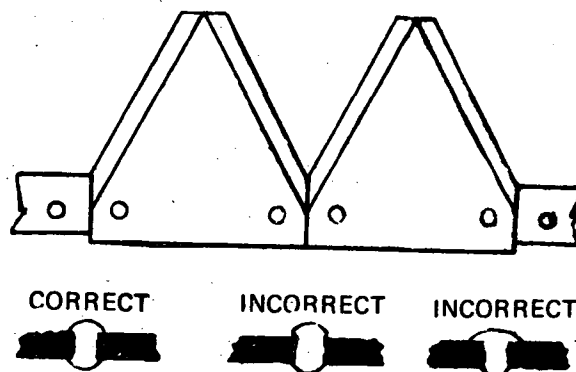

Fig. 3
- b) Mount the sections with the rivets and rivet them. See Fig. 3.